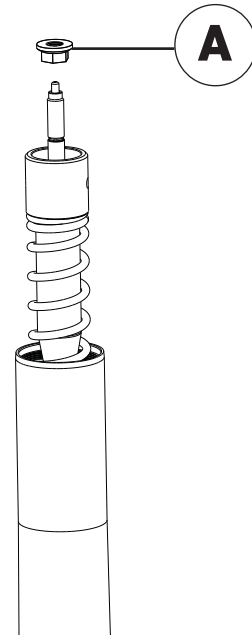

Fig. 14: Install the cinch nut onto the shaft.
11. Compress the main spring using a spring compressor. Compress until the entire threaded end of the shaft is exposed (Fig. 14).